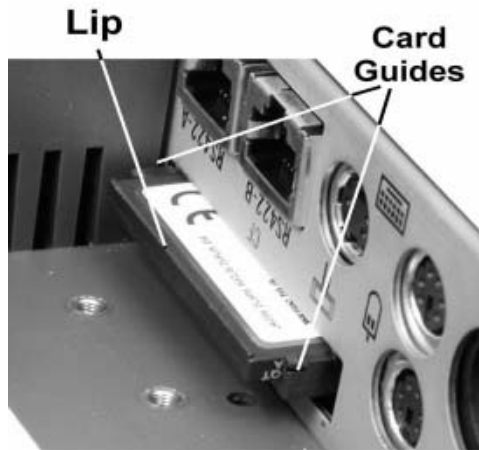

Figure 3-8: Compact Flash Card Removal
- Figure 3-8 shows the CF personality card with the bracket removed. Note the keying lip on the bottom of the card and the guides that hold it in place.
5. Remove the CF card from the inoperative WS4. Use your thumbnail or pen to catch the lip and remove the card from the socket. Figure 3-8. *Hold on to this card - it must be inserted into the replacement WS4.*